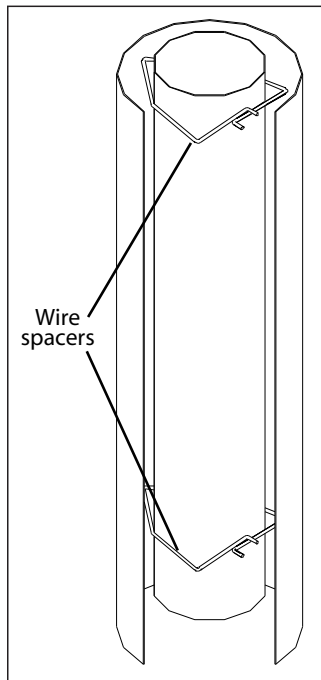
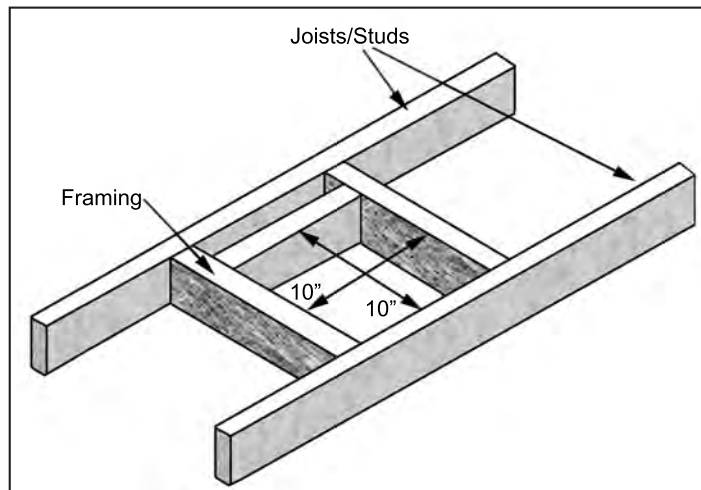
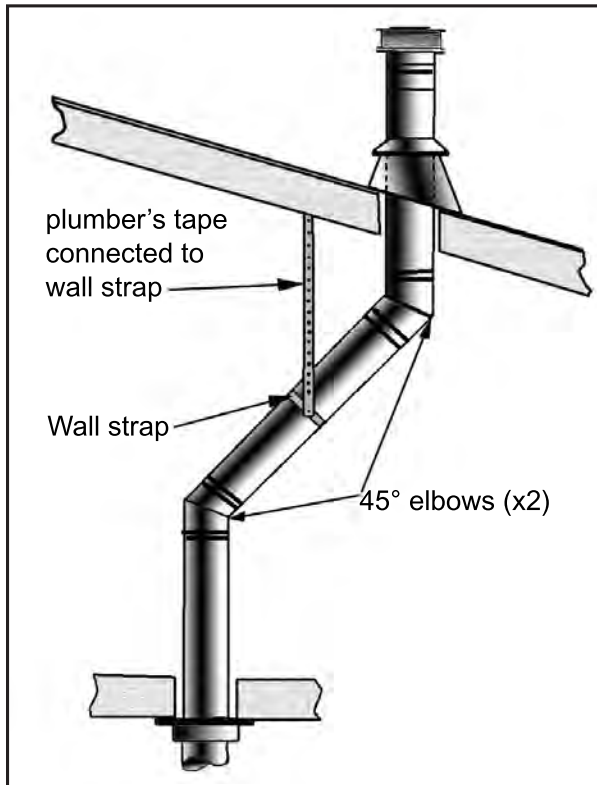
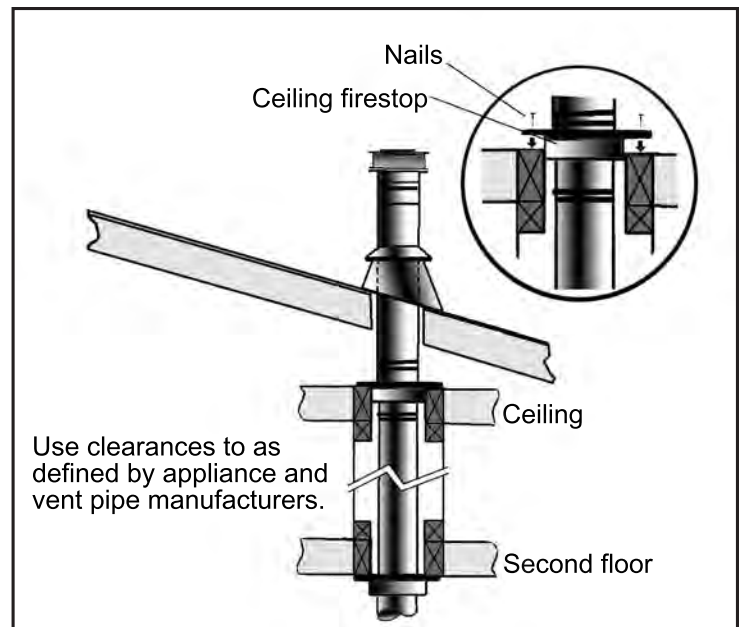

Figure 28: Wire Spacers.
Figure 32. Vent Framing Through Wall/Ceiling.
Figure 38: Use of Wall Straps.
Figure 39: Multi-Story Vent Pipe Installation.
4. Frame the hole as shown in Figure 32.
5. Trim the Wall Thimble to match the wall thickness as necessary. Install the wall thimble and secure it to the inner wall frame using four (4) 1½" wood screws.
8. Slide the Ø6⁵/₈" (16.25 cm) flex intake liner over the flex vent. Install four (4) wire spacers around the flex pipe. Ensure the wire spacers are positioned at either end of the pipes, and at each end of any elbows in the liners (refer to Figure 28 and 29).
A 10" (254 mm) x 10" (254 mm) frame (see Figure 32) will assure the proper support and spacing for the vent pipe as it passes through the wall. Installations in Canada require that a wall thimble be used for passing through walls and ceilings. All sealing and vapour barriers must comply with local building codes.
Step 3. To install the Round Support Box/Wall Thimble in a flat ceiling, cut a 10 inch (25.4 cm) square hole in the ceiling, centered in the hole drilled in Step 2. Frame the hole as shown in Figure 32.
- (1) If an offset is necessary in the attic to avoid obstructions, it is important to support the vent pipe every 3 feet (914 mm), to avoid excessive stress on the elbows, and possible separation. Wall straps are available for this purpose (see Figure 38).
- (2) When ever possible, use 45° degree elbows instead of 90° degree elbows. The 45° degree elbow offers less restriction to the flow of flue gases and intake air.
- (3) For multi story installations; a ceiling firestop is required at the second floor, and any subsequent floors (see Figure 39). The opening should be framed to 10" (254 mm) x 10" (254 mm) inside dimensions, in the same manner as shown in Figure 32.